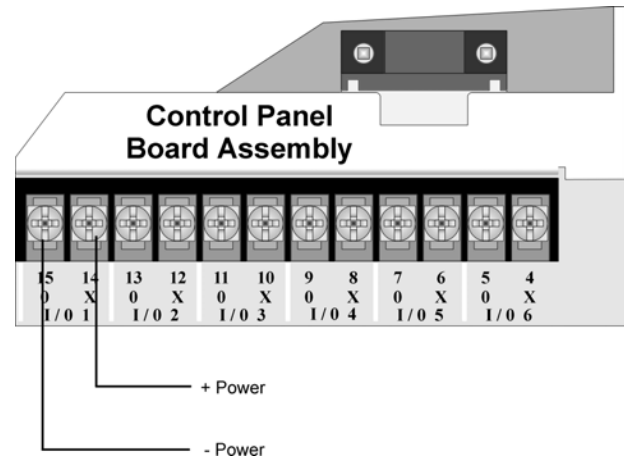

Figure 4: Flexput Auxiliary Power Output
1. Connect the aux power wires to the Flexput terminals using “X” terminals as positive and “O” terminals as negative power. See Figure 4.